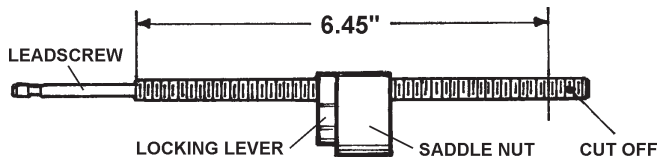

FIGURE 8—The leadscrew is shortened so that the thread length is 6.45". (Shown without handwheel.)
3. Your existing leadscrew must be shortened so that it will clear the top of the rotary column attachment. (See Figure 8.) Leave your existing saddle nut in place on the leadscrew. (If upgrading to a new saddle nut and locking lever, install them at this time.) By leaving your saddle nut in place, you will not have to thread it onto the leadscrew over freshly cut threads.